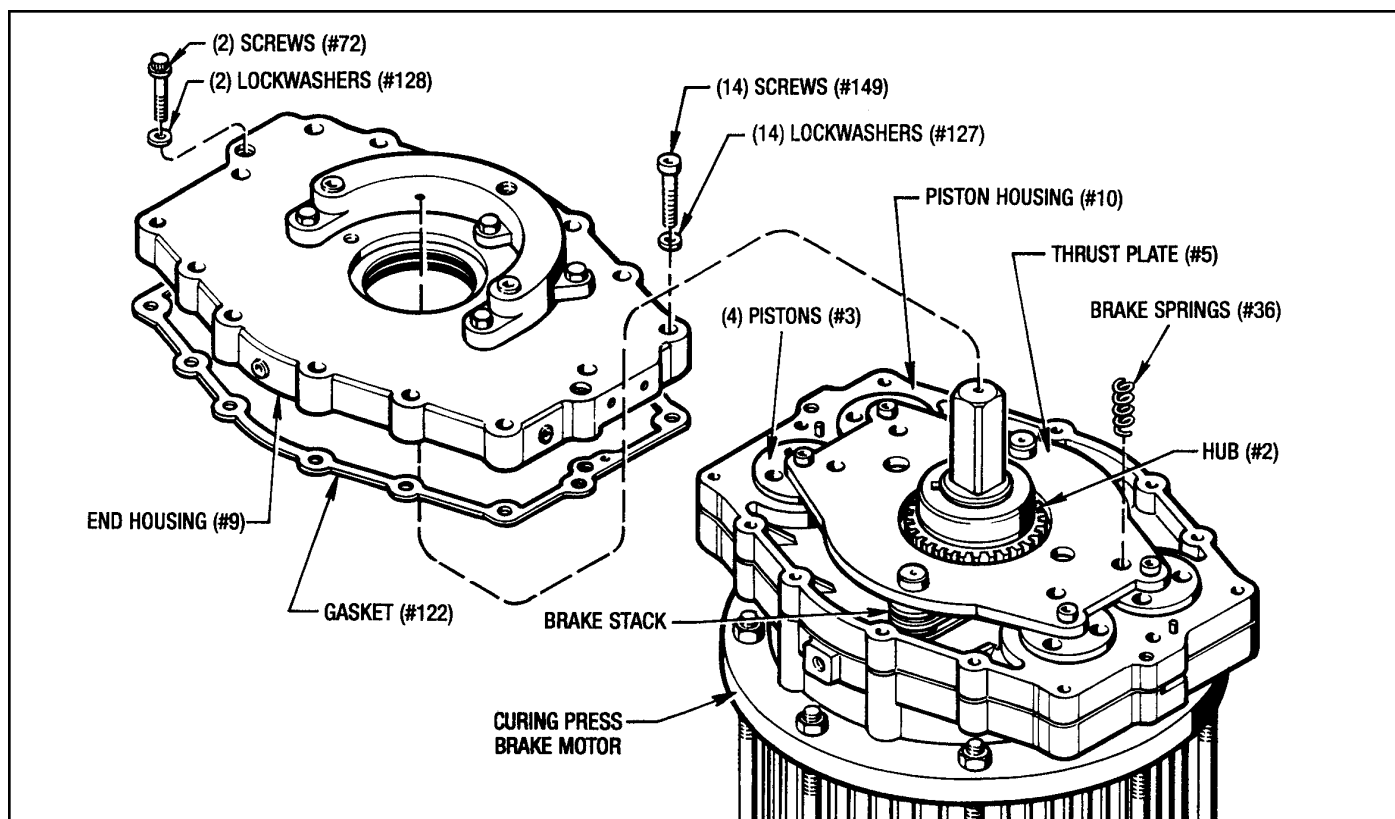

Figure 7.1 - Removing End Housing
3. Lift the End Housing (#9) and Gasket (#122) off the Piston Housing (#10). Discard the gasket. (See *Figure 7.1*)